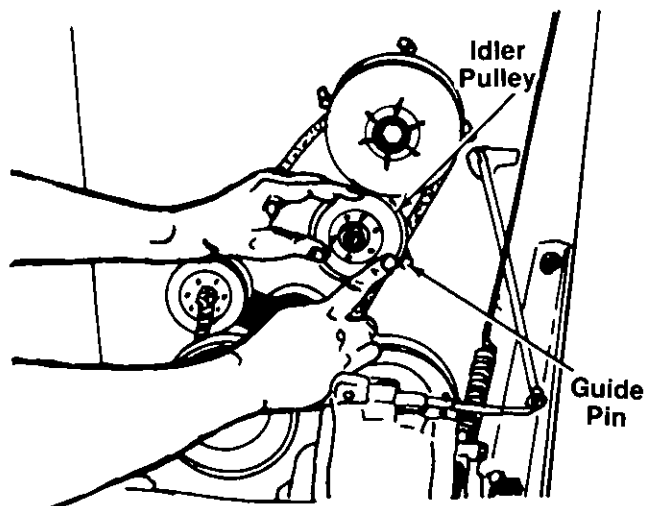

FIGURE 35.
- When sliding the idler pulley on the idler bracket, be certain the belt is between the pulley and guide pin. See figure 35.